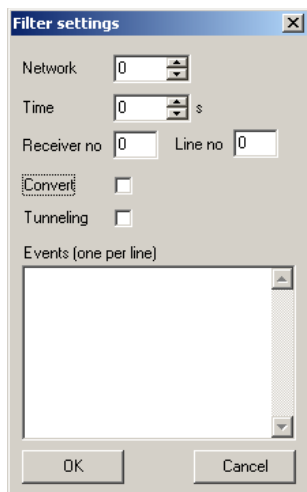

Figure 21.
- In section **Filter settings** parameters for message filtering can be set, when messages are received from radio system RAS-2M repeaters in TCP/IP or UDP/IP protocols. By pressing **Add** button, a new **Filter settings** window is opened (Fig. 21).